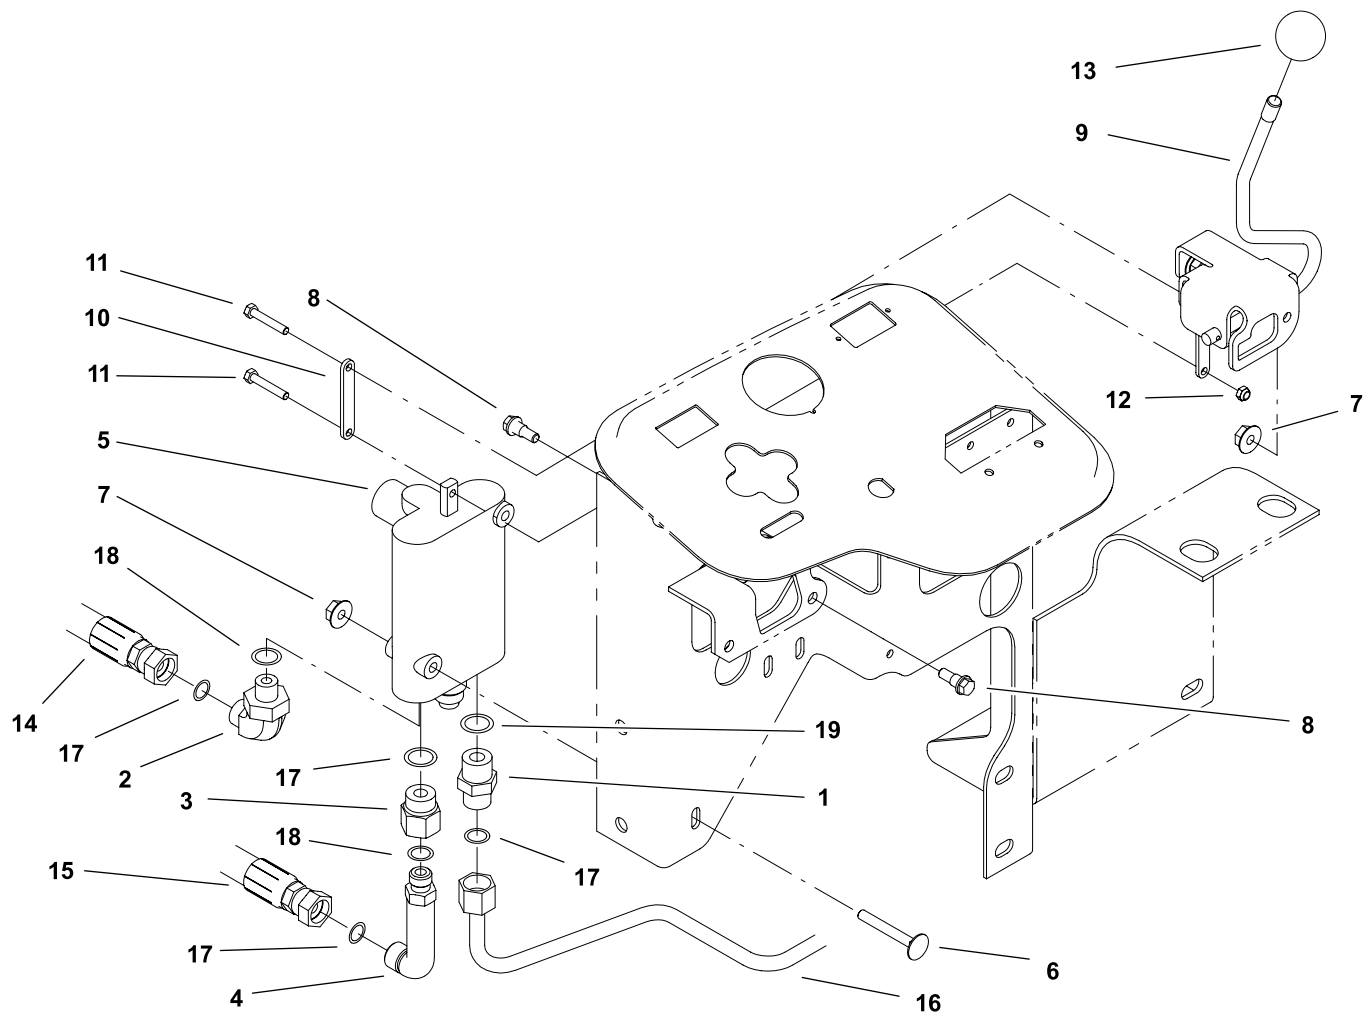

Figure 92
2. Remove control valve from the frame using Figure 92 and Figure 93 as guides.
2. Install control valve to the frame using Figure 92 and Figure 93 as guides.